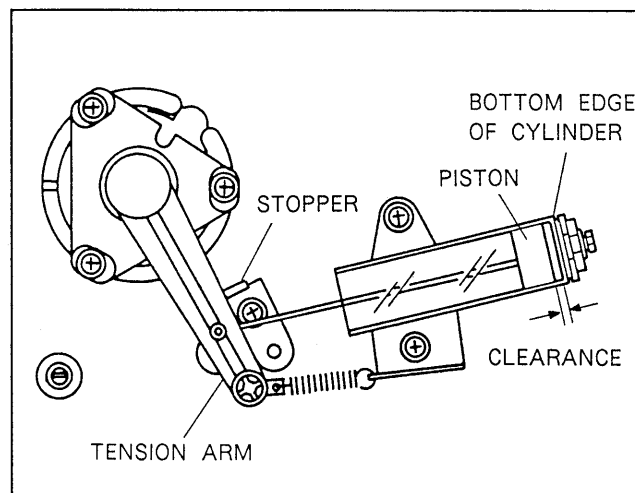

Fig. 6-20-4. Air Damper Installation
6. Check that there is a clearance between the piston and bottom edge of the cylinder when pushing the tension arm toward the stopper as shown in Fig. 6-20-4.